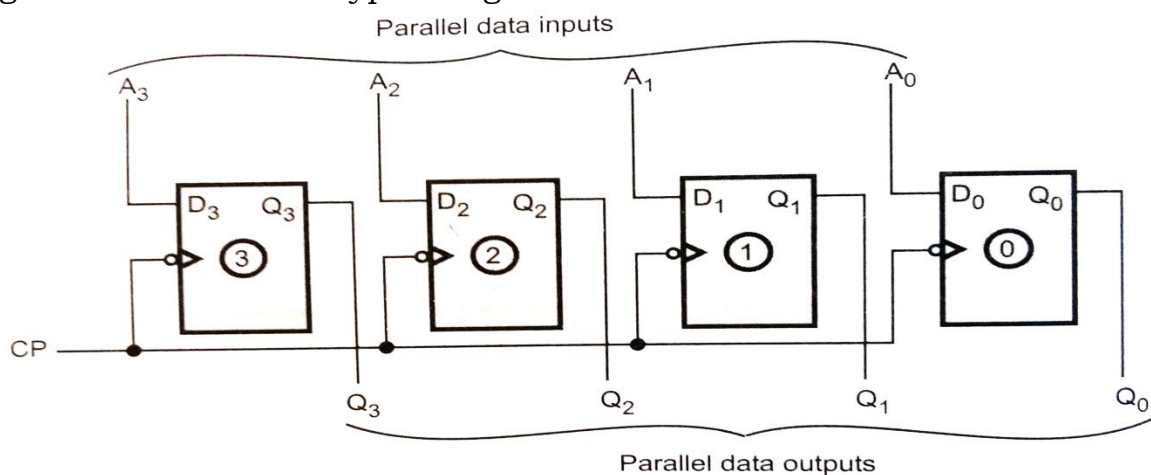

Figure 3.32: Parallel In Parallel Out (PIPO) Shift Register
- Figure 3.32 shows this type of register.